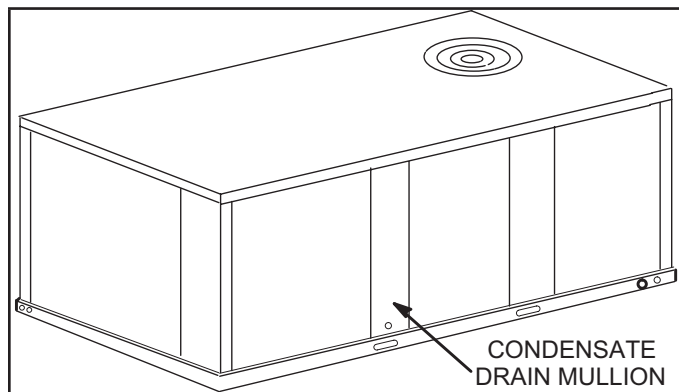

FIGURE 8
- 1 - Remove the condensate drain mullion. See FIGURE 8. Remove the two panels on each side of the mullion.
- 1 - Remove the condensate drain mullion. See FIGURE 8.